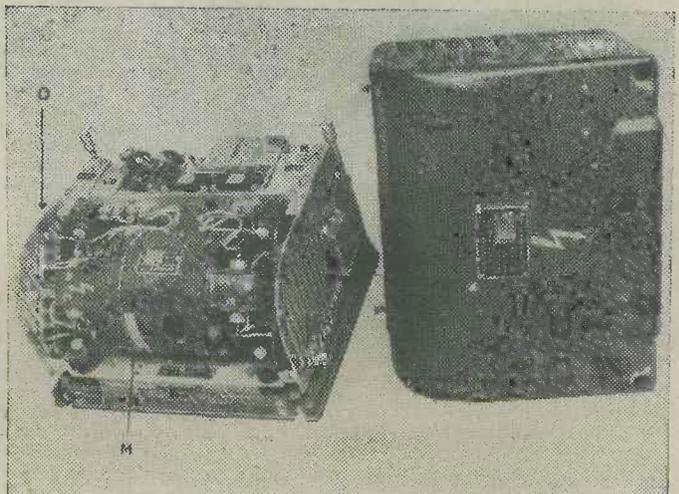

Fig. 4.—Motor generator power unit (FUG 16/17).
The lower, power unit, mounting is connected direct to the external wiring and is not mounted on rubber since it is the practice to mount the motor generator on rubber pillars within the power unit. Fig. 4 illustrates a typical power unit. Also included in the fixed installation are: an input barretter (N) for the motor generator; filament compensating resistances (P); H.T. fuses and an R.F. socket to take the end of the aerial concentric cable.
Mention has already been made of the power units, e.g., Fig. 4. These are provided on a generous scale with separate units for the supply of the transmitter H.T. and of the receiver H.T. They consist of a motor generator mounted together with smoothing chokes and condensers to form a separate unit. Input and output stabilisers may be included, and sometimes A.C. is generated, in addition to D.C., to provide for the operation of remote tuning by 'selsyn' motors.